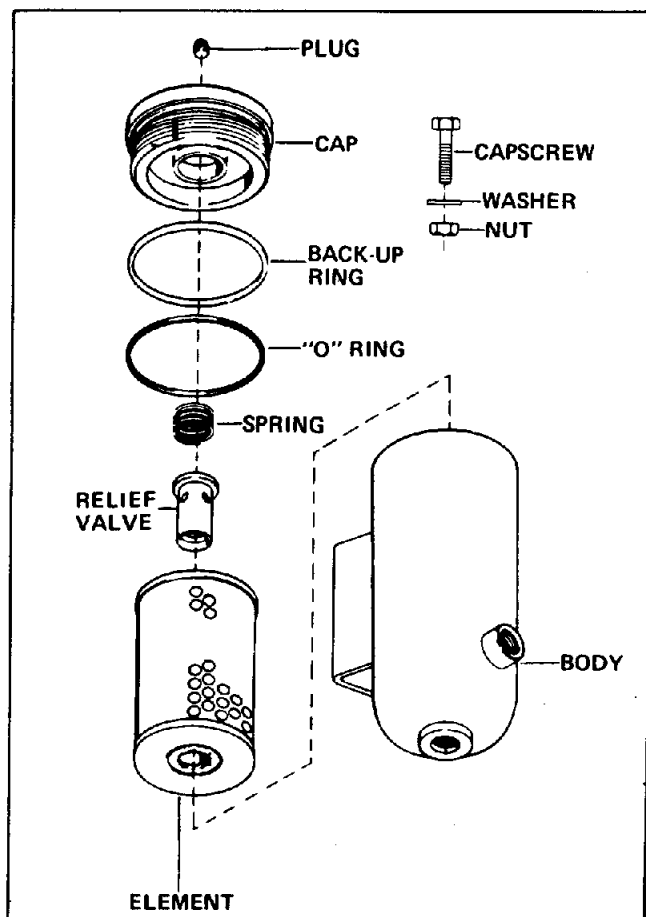

Figure 24. Case Hydraulic Filter
Refer to Figure 24 and service the Case hydraulic filters as follows:
5. Using new element and seals, reassemble the filter as shown in Figure 24.